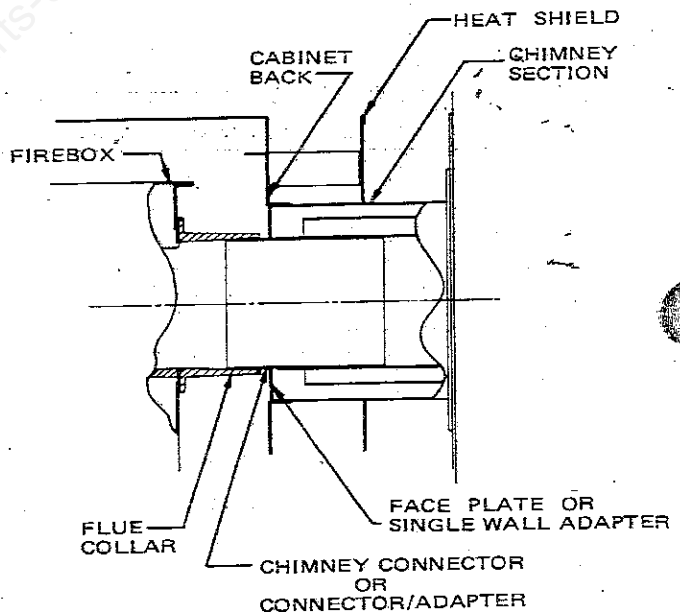
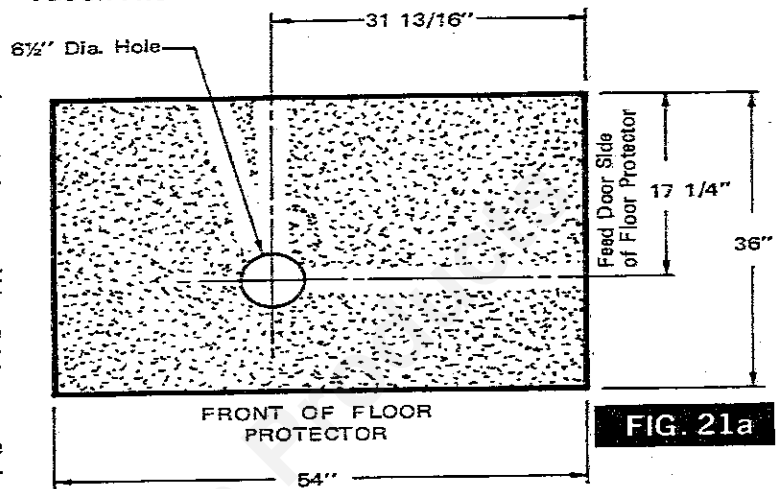
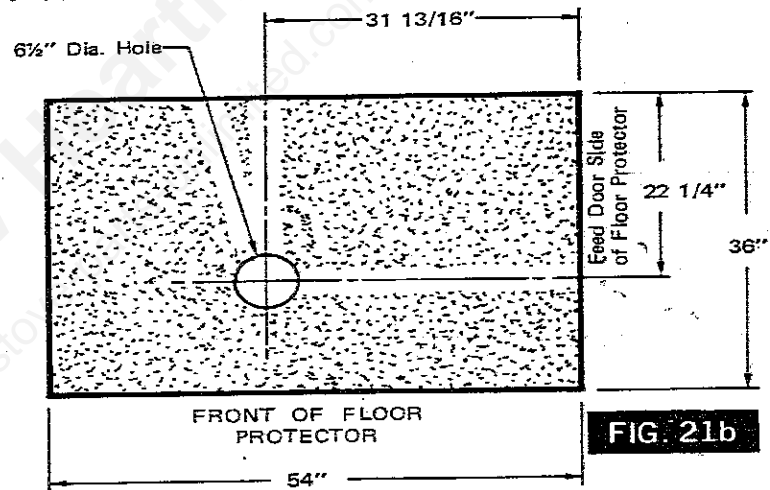
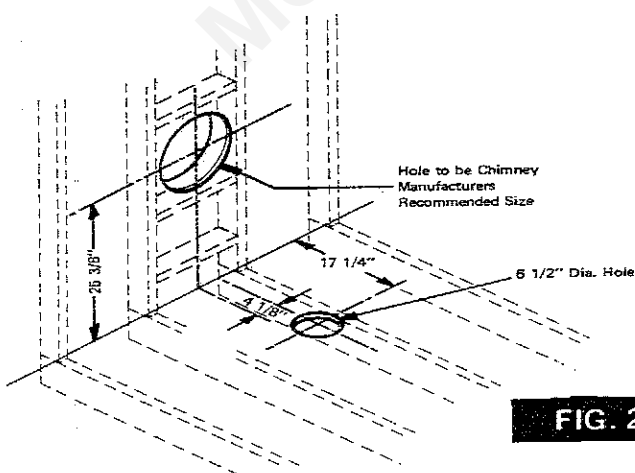

FIG. 14
FIG. 21a
FIG. 21b
FIG. 21
3. After selecting a chimney and the area in which the stove will be located, install the chimney per the manufacturers' instructions. It is recommended that the opening in the wall for the chimney be located between two studs. To provide support for the tee support outside the mobile home, (3) 1" x 3" boards may be placed between the wall studs where the heater is located as shown in Fig. 21, Page 17. The chimney must extend through the wall and end at the cabinet back of the heater. See Fig. 14.
4. Assemble the heater chimney connector and chimney as it will be when the heater installation is completed. Take careful measurements of the distance between the cabinet back of the heater and the back wall. If this dimension is greater than 7" it will be necessary to add the difference to the 17-1/4" dimension in Fig. 21 in order to properly locate the center of the inlet combustion hole.
5. Locate the inlet combustion air opening in the floor of the mobile home, then proceed with cutting the 6-1/2" dia. hole. See Fig. 21. Next take the floor protector for minimum clearance installation and cut a 6 1/2" dia. hole in it using Fig. 21a as a guide.
7. Position the floor protector over the hole in the floor so that the holes align with each other. (See Fig. 21A, 21B on Page 17).
2. If desired, combustion air can be brought in from outside the house by cutting a 6 1/2" diameter hole in the floor as shown in Fig. 21.
NOTE: To provide support for the tee support outside the mobile home, (3) 1" x 3" boards may be placed between the wall studs where the heater is located as shown in Fig. 21.
3. If installing the heater in a residence with the standard clearance, cut a hole in the floor protector as shown in Fig. 21A. If installing in a mobile home or in a residence with a minimum clearance, cut a hole in the floor protector as shown in Fig. 21B.